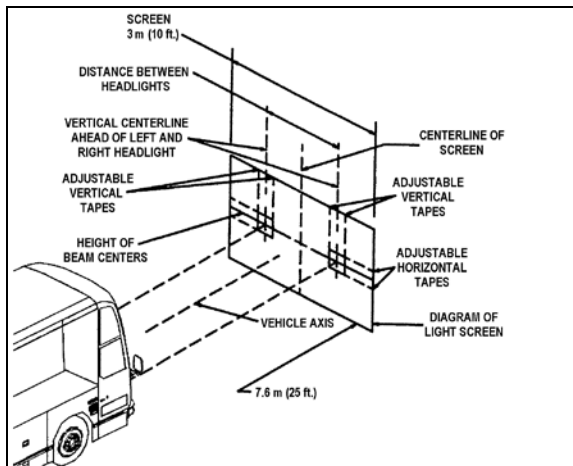

FIGURE 27: ALIGNMENT OF HEADLIGHT AIMING SCREEN 06502
6. Low beam headlights are aimed so that the top edge (the cutoff) of the high-intensity zone is at the vertical location as per Table 1 and the left edge of the high-intensity zone is at the vertical centerline of the headlight (Fig. 27).